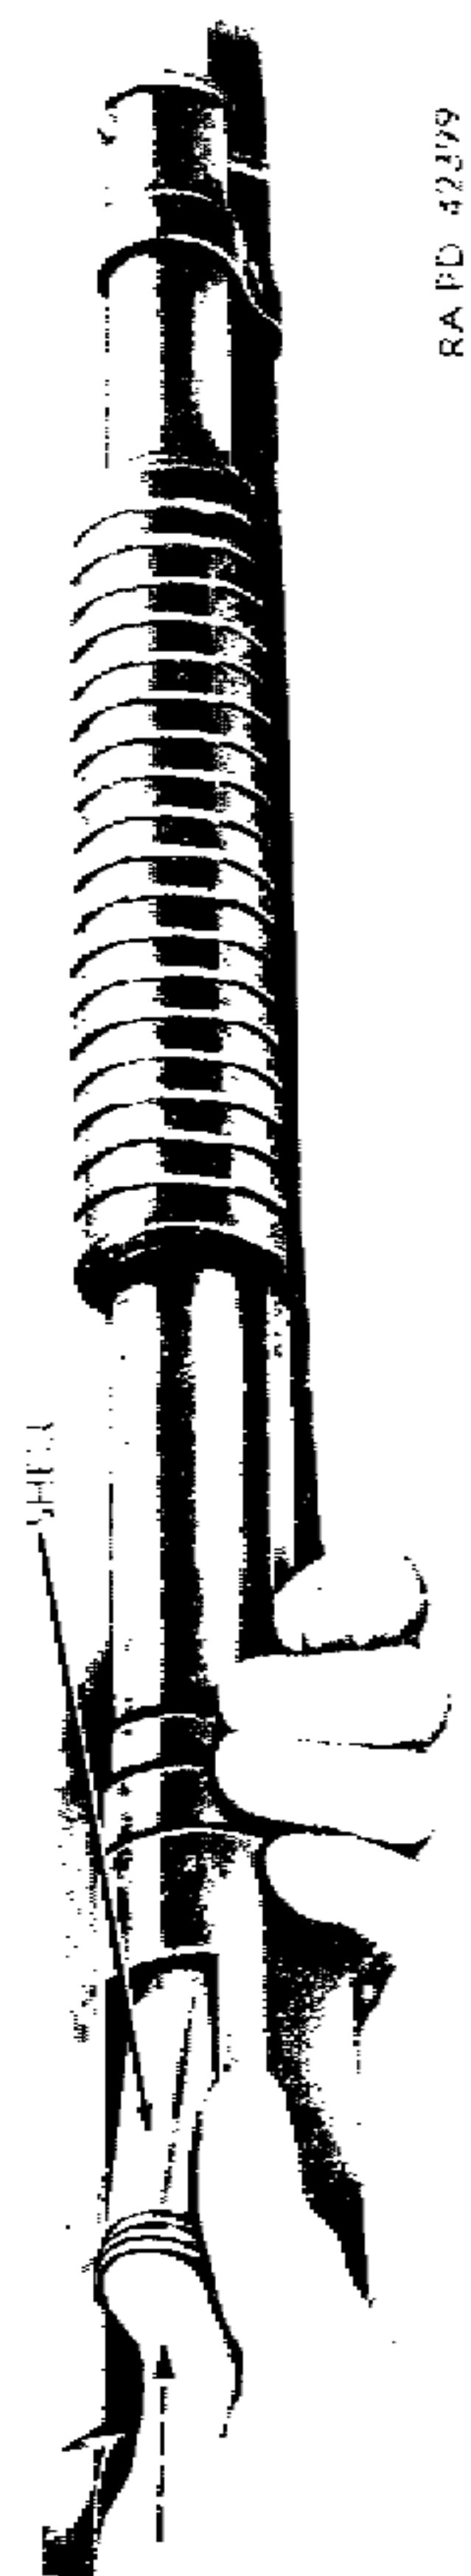

Figure 11—Loading Magazine—Winchester Shotgun M97
e. **To Load and Unload the Magazine (fig. 11).**
(1) To load the magazine, press a shell nose first, into the rear of